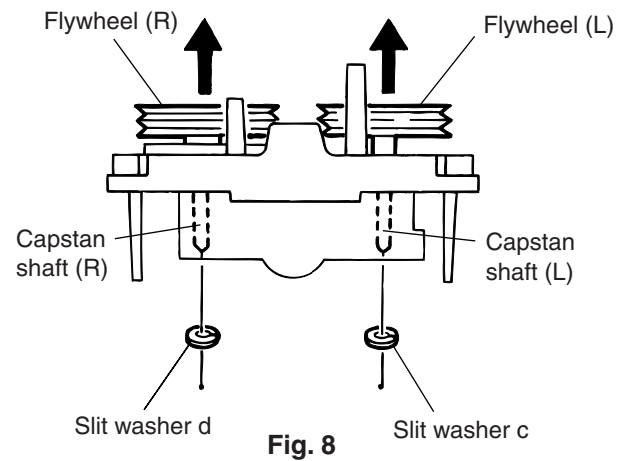

Fig. 8
■ Removing the Flywheel (Refer to Figs. 8 and 9.)
1. Remove the slit washers c and d that fasten the capstan shafts (L) and (R) from the front side of the cassette mechanism assembly, and then draw out the flywheels (L) and (R) from the back side of the cassette mechanism assembly in the arrow-marked direction for removing them.